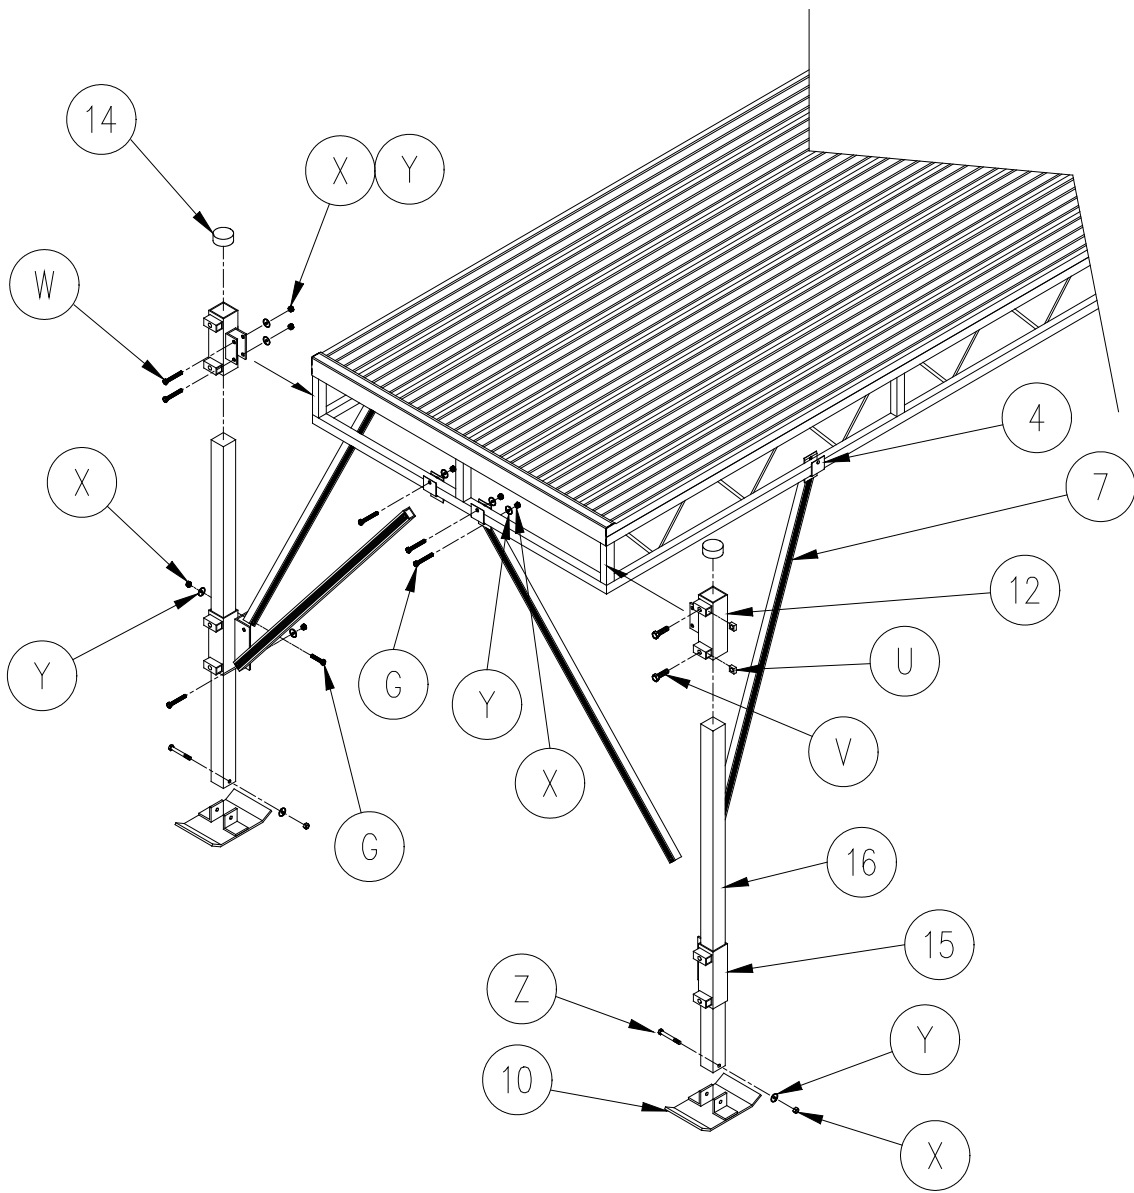

Figure 2-10
1. **(Refer to Figure 2-10)** Attach the shoreline support bracket weldment (detail 12), to the dock frame. Fasten using two each, 3/8" hex head cap screw (detail W), flat washer (detail Y), and hex nut (detail X). Tighten securely.
5. Install (4) diagonal brace mounting brackets (detail 4) onto the dock frame using 3/8-16 x 1-3/4" hex head cap screw (detail V), 3/8 flat washer (detail Y) and 3/8 hex nut (detail X). Leave the brackets loose so that they can be adjusted later.